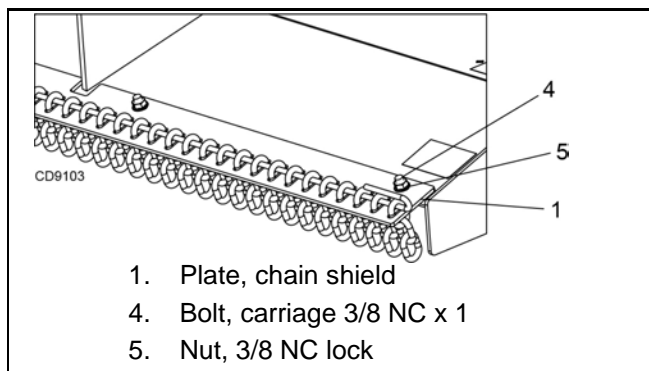

Figure 34. Chain Shielding Installed
1. Install chain shielding plate (1) on top rear edge of mower frame as shown in Figure 34.
2. Secure with carriage bolts (4) and flanged lock nuts (5).